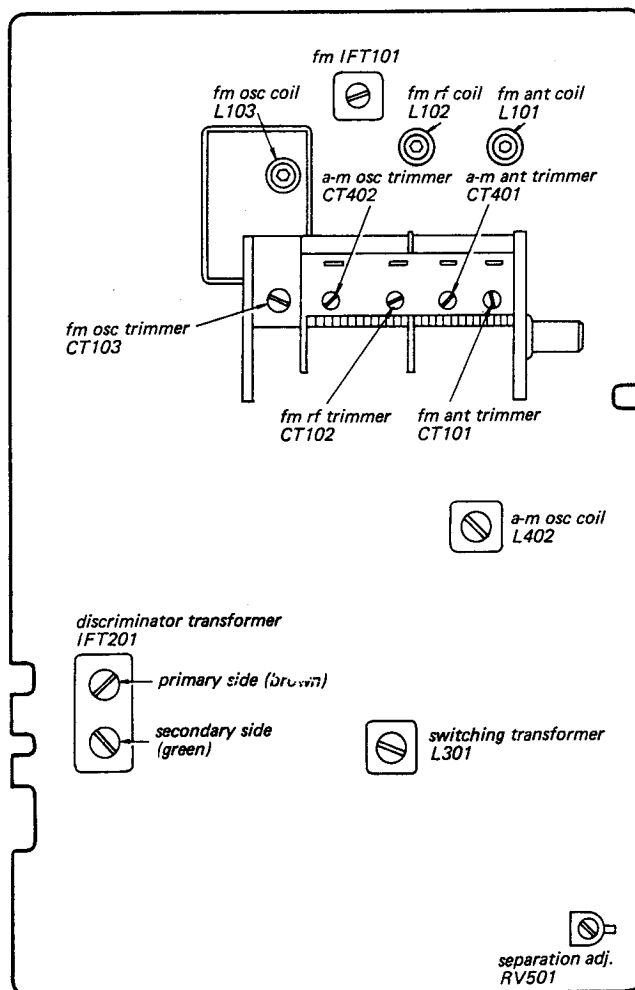

Fig. 3-10. Adjustment parts location
7. Turn the core of fm IFT101 and primary side core (brown) of discriminator transformer IFT201 (see Fig. 3-10) to obtain the maximum output.
1. Precisely tune the set to the carrier frequency of stereo signal generator, then turn the top core of switching transformer L301 (see Fig. 3-10) to obtain maximum output at the left channel. Note that this adjustment has a close relationship with stereo distortion.
4. The output-level to residual-level ratio represents the separation. Adjust separation adj. control RV501 (see Fig. 3-10) for minimum residual level. Check the right channel for separation. Usually, about an 8 to 9 dB difference in channel separation exists. Readjust RV501 for minimum difference between left- and right-channel separation. While